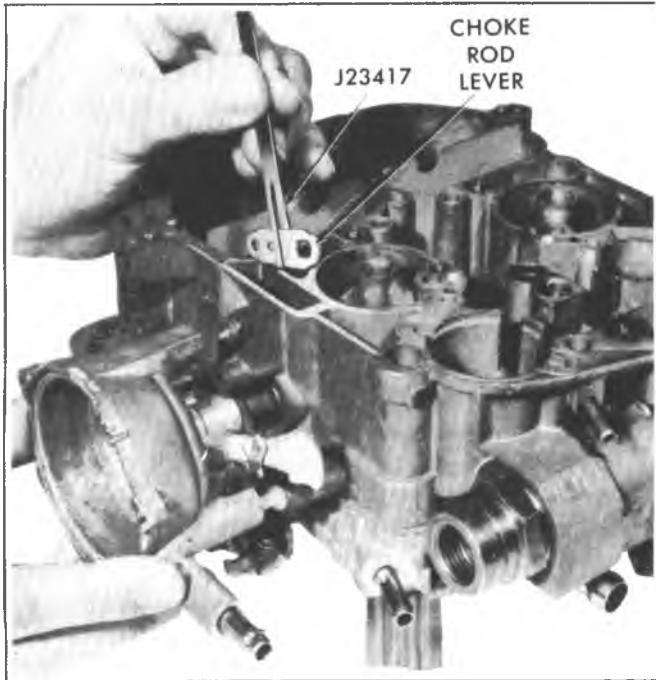

Fig. 6C4-46-Installing Choke Rod Lever
2. Install throttle body making certain throttle body is properly located over dowels on float bowl, then install throttle body to bowl screws and tighten evenly and securely (Fig. 6C4-43).
4. Install fuel inlet filter spring, filter, new gasket and inlet nut and tighten nut to 24 N·m (18 ft. lbs.) (Fig. 6C4-42).